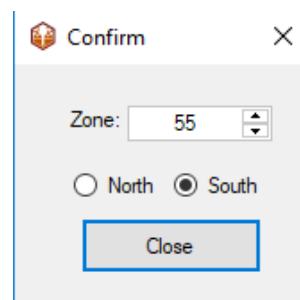

Fig. 337 - UTM Zone definition
5. Define UTM Zone (Fig. 337);